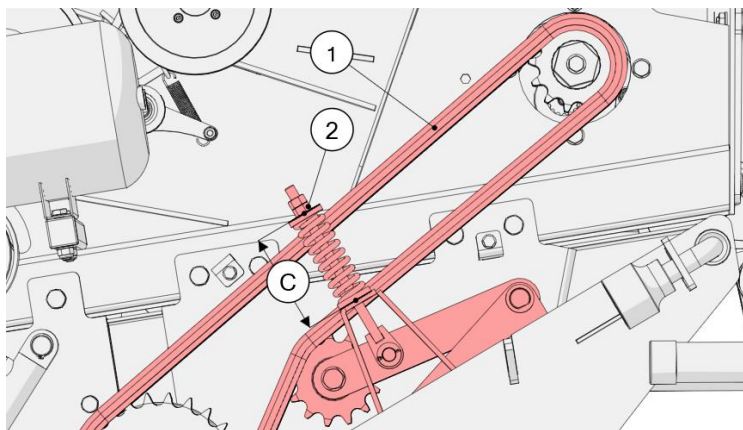

Figure 18. Tensioning the rotor chain
- To tension the rotor chain (1), as shown in Figure 18, turn the tensioner nuts (2) so that the distance $C = 95 \text{ mm}$